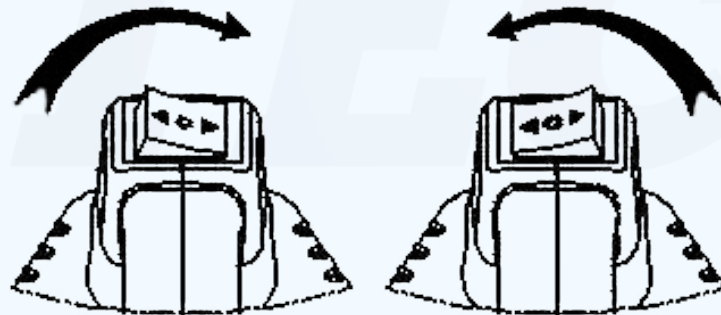

Figure 2
4. According to working rotation, choose the switch for loosening or tightening. (check Figure 2)